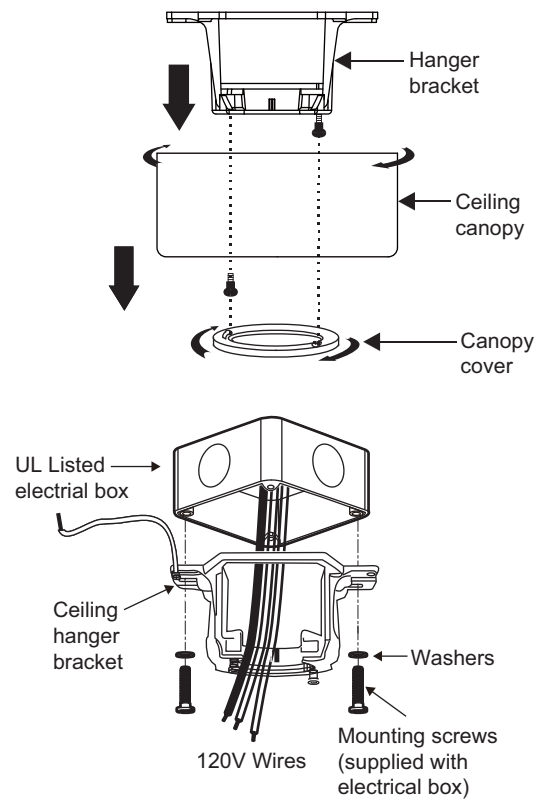

Figure 6
**Step 3.** Pass the 120-volt supply wires through the center hole in the ceiling hanger bracket as shown in Fig. 6.